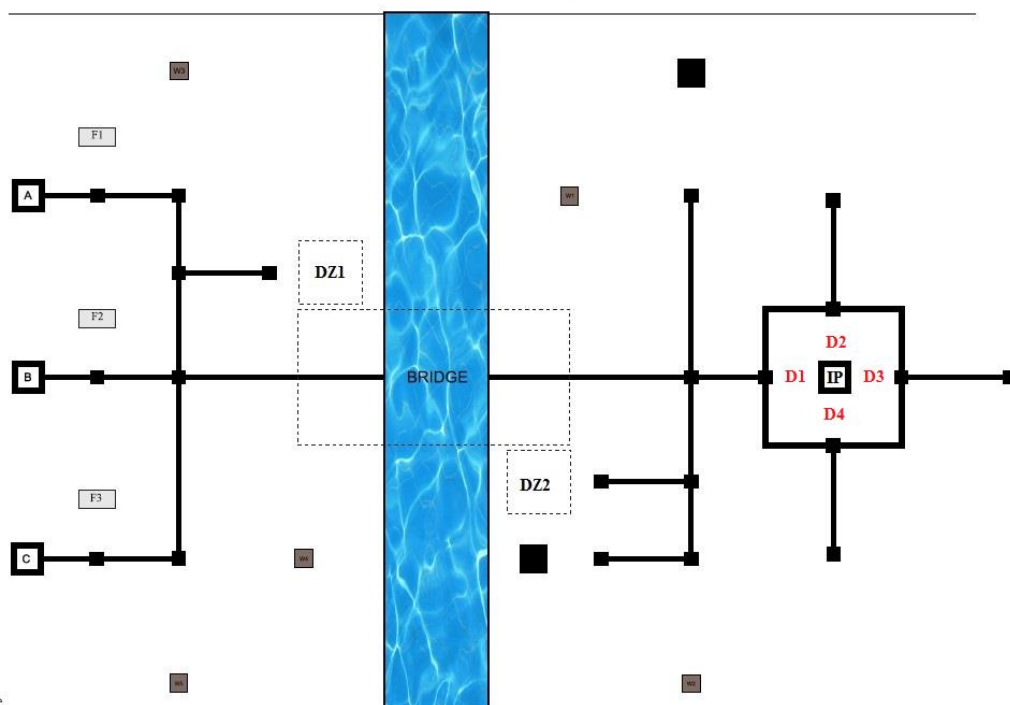

Figure 6: Arena indicating direction for stack position-1.
- D1, D2, D3 and D4 in Figure 6 represent direction in which Red/ Blue/Green colored face faces in a Low CCL Block.